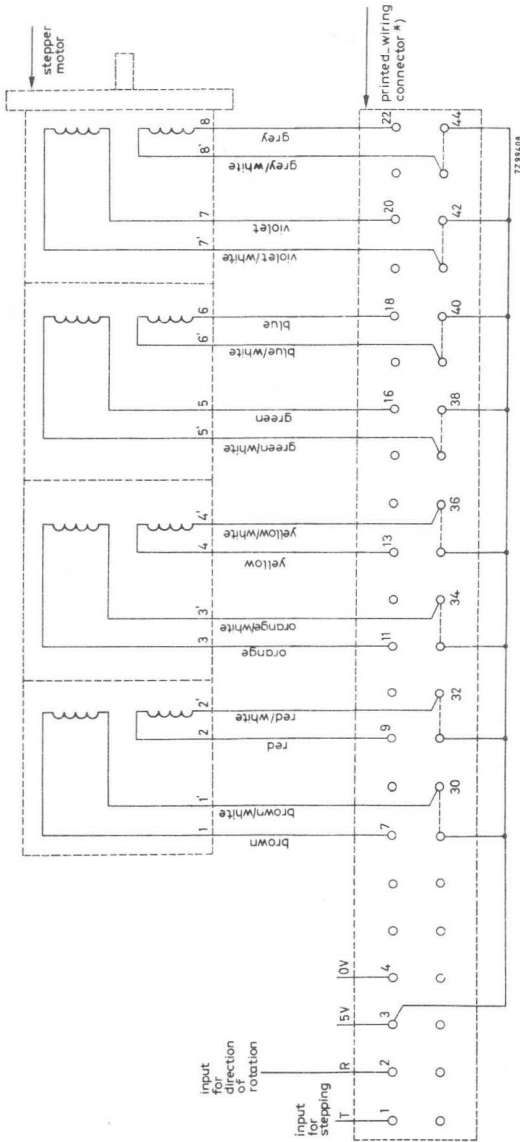
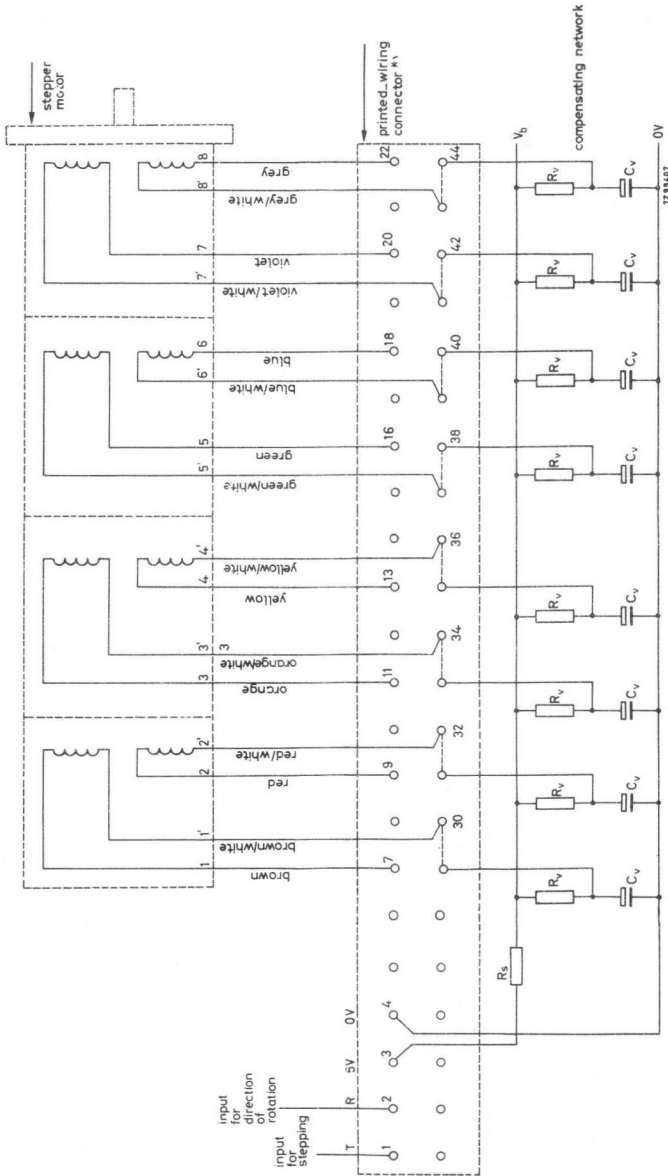

Fig. 2a. Diagram for connecting the motor to the electronic switch via a printed-wiring connector, without compensating network.
Fig.2b. Diagram for connecting the motor to the electronic switch via a printed-wiring connector, with compensating network.
1) measured with 8-phase electronic switch 9904 131 03004 and with the coils connected according to Fig.2b.
Fig. 3. Torque versus stepping rate, measured at room temperature. (Solid lines obtained with circuit of Fig. 2b, dashed lines obtained with circuit of Fig. 2a). Derating at low and high temperatures.